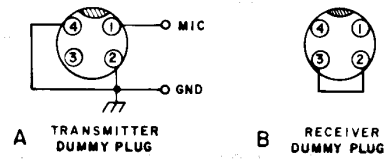

Figure 6 – Dummy Microphone Plugs
Electronic switching is used in the unit making it inoperable when the microphone is disconnected from the front of the unit. In order to activate a unit only for receiver service, a dummy plug must be used in place of the microphone plug. Use of this plug is **HIGHLY RECOMMENDED TO ACTIVATE THE RECEIVER WHEN PERFORMING SERVICE. IF THE MICROPHONE IS USED ACCIDENTAL DEPRESSION OF THE TRANSMIT BUTTON COULD RESULT IN DAMAGE TO VALUABLE TEST EQUIPMENT.** See Figure 6 for view and information on dummy plug.
6. Dummy plug to activate transmitter without using microphone, see Figure 6.
7. Dummy mike plug for receiver servicing, with jumper between pins 2 and 3 as seen in Figure 6.